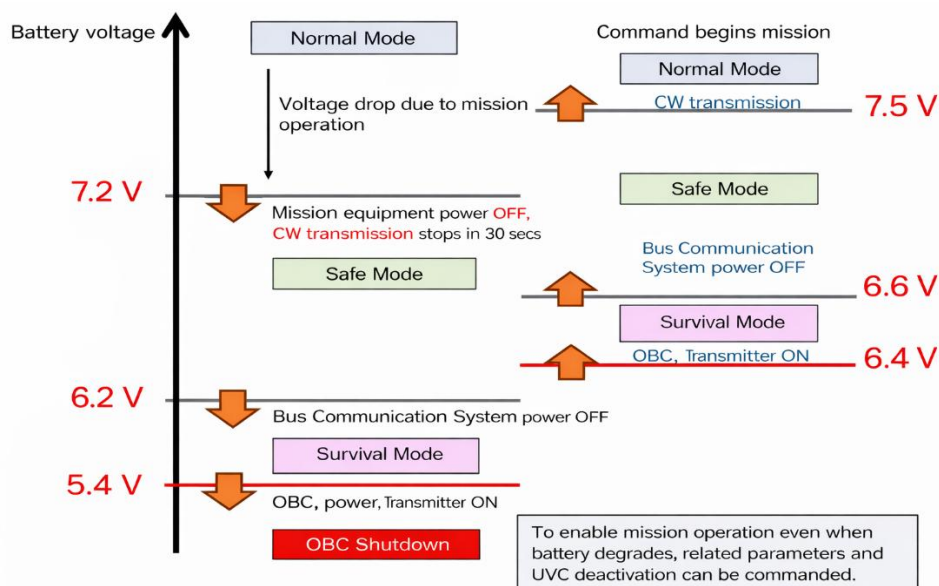

Figure 3 Overview diagram of UVC
Figure 3 shows an overview diagram of UVC. When UVC is enabled, the UVC level initially indicates “UVC Startup Successful.” Subsequently, it transitions through the following four levels based on battery voltage and the current UVC level.
- When the current battery voltage falls below the Level 1 threshold (7.2V in Figure 3), and the current UVC level is either “UVC Startup Successful” or “Switch to Normal Mode”.
- When the current battery voltage falls below the Level 2 threshold (6.2V in Figure 3), and the current UVC level is either “Level 1” or “Switch to Safe Mode”.
- Current battery voltage exceeds the Normal Mode Transition threshold (7.5V in Figure 3), and the current UVC level is either “Level 1” or “Switch to Safe Mode”.
- Current battery voltage exceeds the Safe Mode Transition threshold (6.6V in Figure 3), and the current UVC level is “Level 2”.